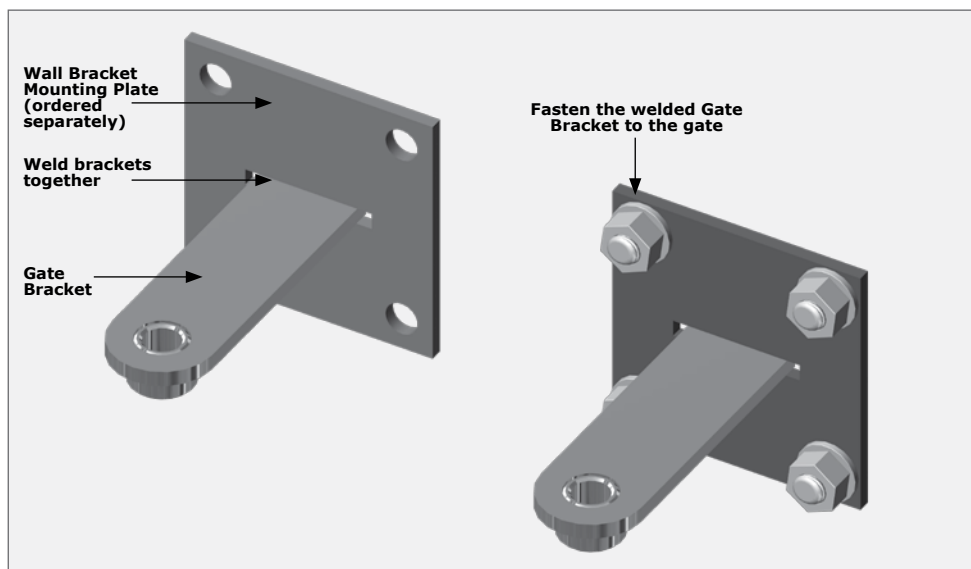

FIGURE 16. MOUNTING THE GATE BRACKET TO A NON-STEEL GATE
- Another Wall Mounting Bracket can be purchased and then the Gate Bracket can be welded to it as shown in Figure 16.